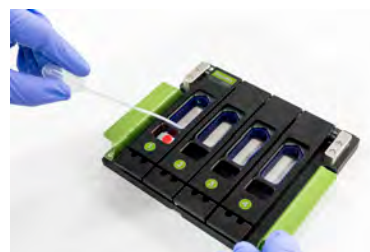

Figure 12: Adding buffer
5. Add **6 mL Buffer S** to each tissue section (see Figure 12). This reagent is included in the slide preparation kit. Do NOT remove Buffer S from the GeoMx instrument reagent bay. The gasket on the slide holder clamp should contain the buffer so there is no leaking into the instrument.